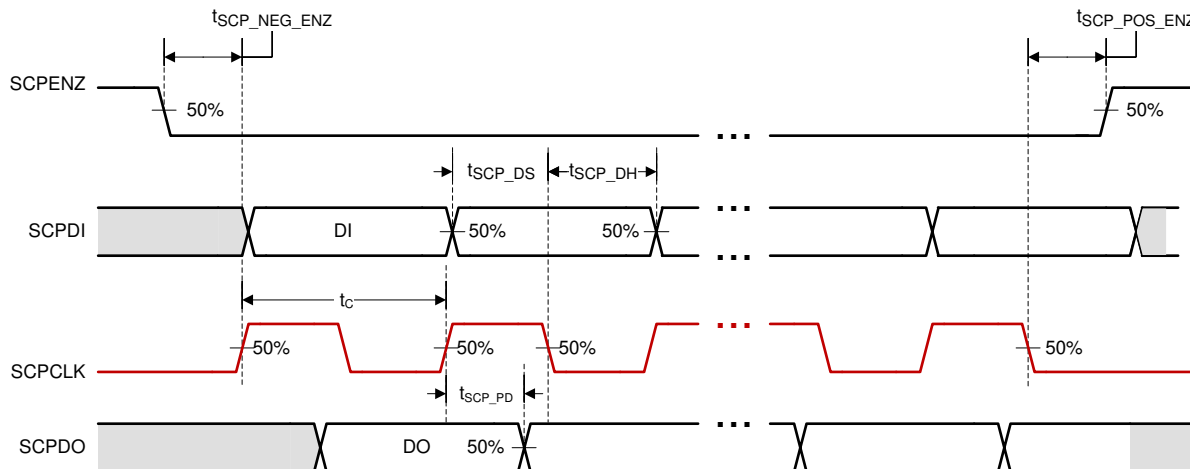

Figure 6-2. SCP Timing Requirements
- (6) Low-speed interface is LPSDR and adheres to the Electrical Characteristics and AC/DC Operating Conditions table in JEDEC Standard No. 209B, "Low-Power Double Data Rate (LPDDR)" JESD209B. Tester Conditions for VIH and VIL.
- (7) PWRDNZ input pin resets the SCP and disables the LVDS receivers. PWRDNZ input pin overrides SCPENZ input pin and tristates the SCPDO output pin.
- (8) The SCP clock is a gated clock. Duty cycle must be $50\% \pm 10\%$. SCP parameter is related to the frequency of DCLK.
- (9) See Figure 6-2.